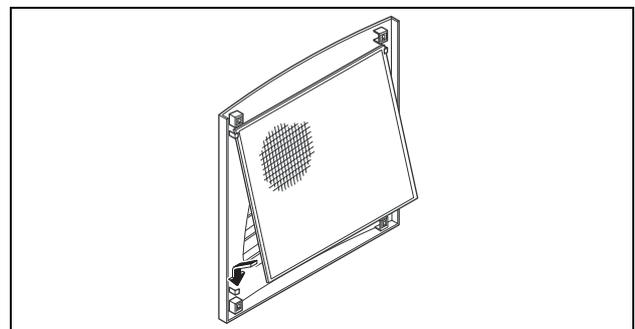

Fig. 26: Installing the filter mat
- Insert the filter mat into the louvred grille as shown in fig. 26 and push it back onto the enclosure.